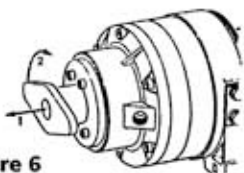

Figure 6
- To place the winch in freespool, first remove any load from the wire rope and drum. Grasp the freespool handle located on the end of the brake housing. Pull straight back until the handle stops. Rotate the handle approximately 1/4 turn and release. The wire rope may now be pulled from the drum (See Figure 6).
- To re-engage the winch's drive, turn the handle in either direction until you feel the handle re-engage the freespool body. The handle will move forward but not to the full engage position (See Figure 6). This is normal due to misalignment of the drive splines. Full engagement may be accomplished using one of the following techniques.